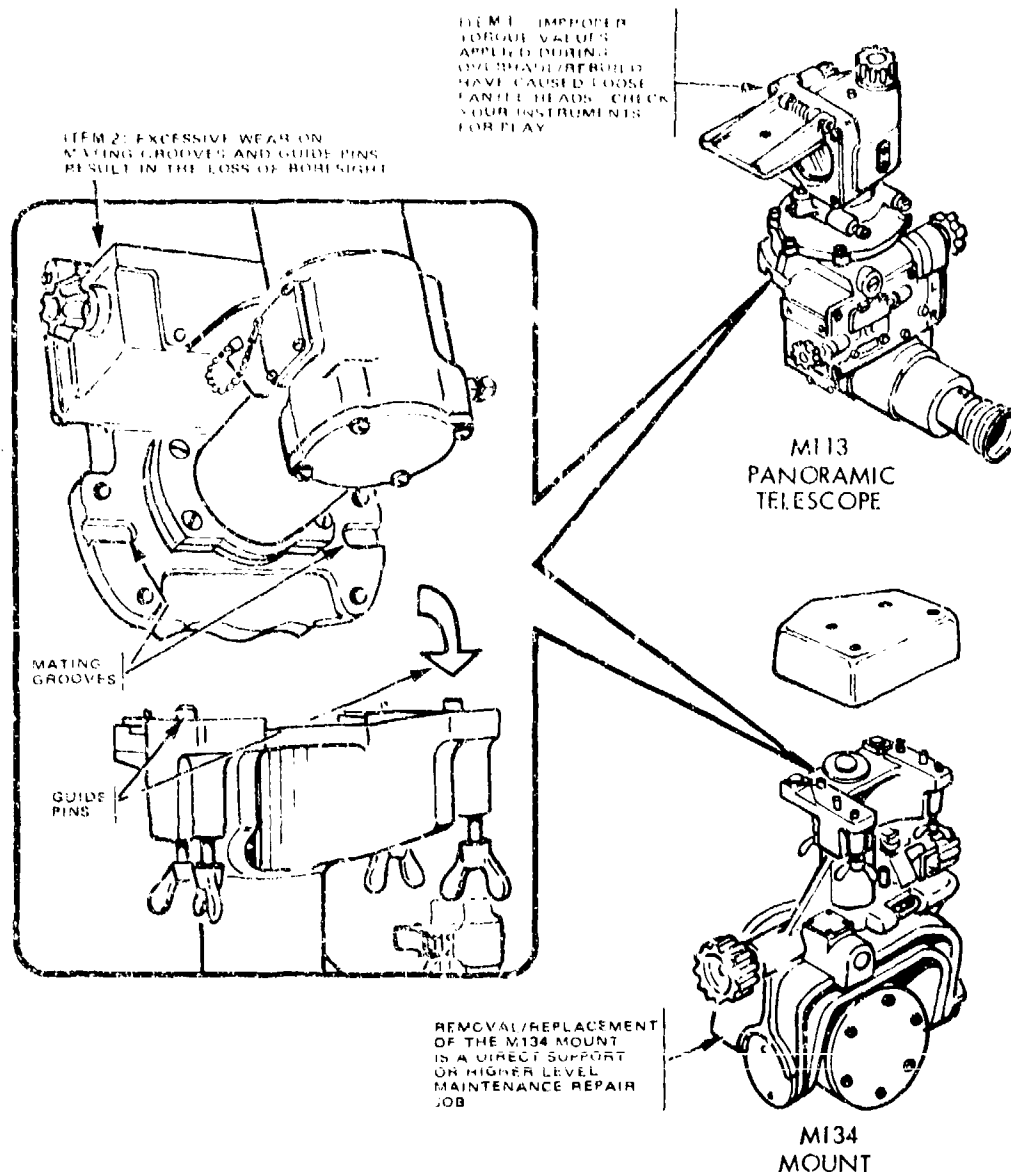

Figure 4-45. M134 panoramic telescope mount with M113 panoramic telescope.
There are four primary areas of interest involving maintenance problem areas on the M102 fire control and related equipment (fig 4-45 and 4-46).
a. The first problem area involves the M113 panoramic telescope. As a result of poor quality control, improper torque values were applied during the fire control equipment rebuild program (item 1, fig 4-45). These improper torque values caused play of 1 to 3 mils in the heads of a significant number of M113 panoramic telescopes. Quality control measures have been strengthened to correct this deficiency; however, faulty instruments remain in the field both at the user level and at higher support levels.
(1) As a user, you need to inspect the instruments on hand to verify their serviceability. If play exists, turn the M113 panoramic telescope in for repair. Additionally, you should inspect your float items, if issued, because these may also be defective.
(2) To determine if play exists in the head of an instrument, align the telescope crosshair on a well-defined distant aiming point while the instrument is mated to the weapon mount. Grasp the telescope head and gently attempt to rotate it
(1) To correct this wear problem, the M134 mount will be modified to replace the guide pins with a key configuration. The key configuration will increase the bearing surface between the M134 mount and the M113 panoramic telescope and eliminate the excessive wear between the two components. This modification will be applied on an attrition basis.
(2) At the present time, each user should inspect the M113 panoramic telescope grooves and the M134 mount guide pins for wear.
(3) To determine if excessive wear exists, you should boresight the weapon immediately prior to firing in a firing position. After several rounds have been fired, boresight should be verified. If loss of boresight of over 1 mil has occurred, turn the weapon in to direct support maintenance personnel for repair; indicate on DA Form 2407 that the weapon fails to retain boresight during firing.
c. The third problem area involves both the M134 mount and the M14 fire control quadrant (fig 4-45 and 4-46). Investigations have shown that during normal elevation of the M102 cannon the weapon trunnions spread, or flex. This, in turn, affects the alinement of the M134 and M14, which are mated to the trunnions by adapter plates. The spreading, which is inherent in the weapon system, is due to the lightweight aluminum carriage and cannot be corrected except by major redesign of the weapon system. However, it has been determined that the misalignment caused by the spreading trunnions can be compensated for by adjustment of the M134 mount and M14 fire